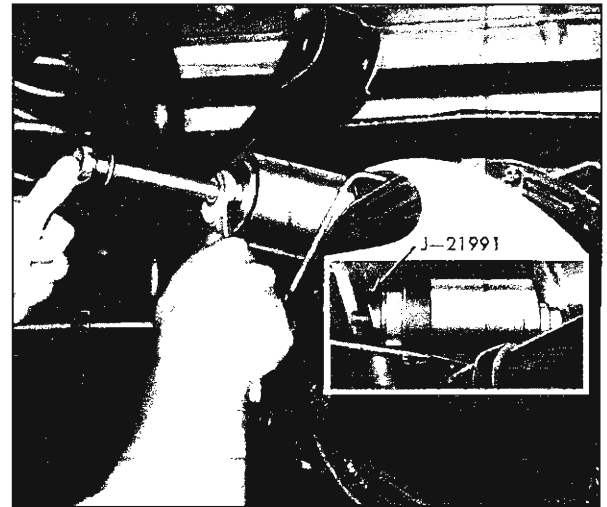

Fig. 31—Carrier Mounted Suspension Bushing Removal (Heavy-Duty)
- c. Align tools on carrier ear and center remover adapter on bushing. Hold head of puller screw and turn 1/2 x 20 nut to withdraw bushing from carrier ear. Refer to Figure 31 for installed view of removal tools.